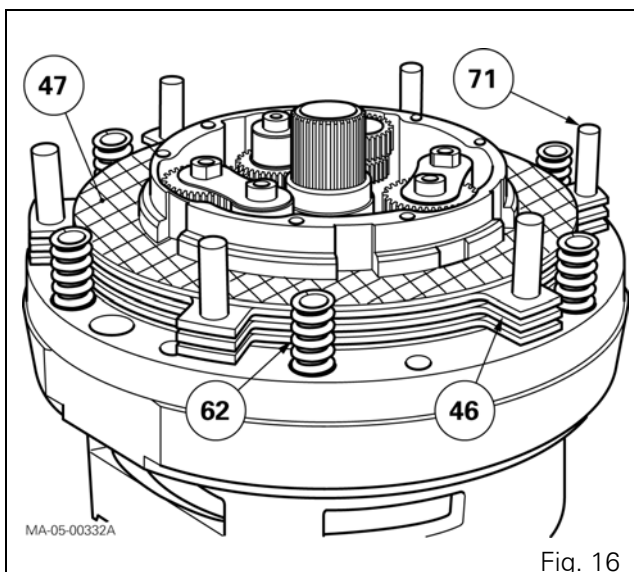

Fig. 16
85. Fit the front snap ring (61).
86. Soak the discs (47) in a transmission oil bath for approximately 1 hour. Check that they are correctly impregnated.
87. Fit the discs (47) and the intermediate plates (46) depending on the type of tractor (Fig. 16).